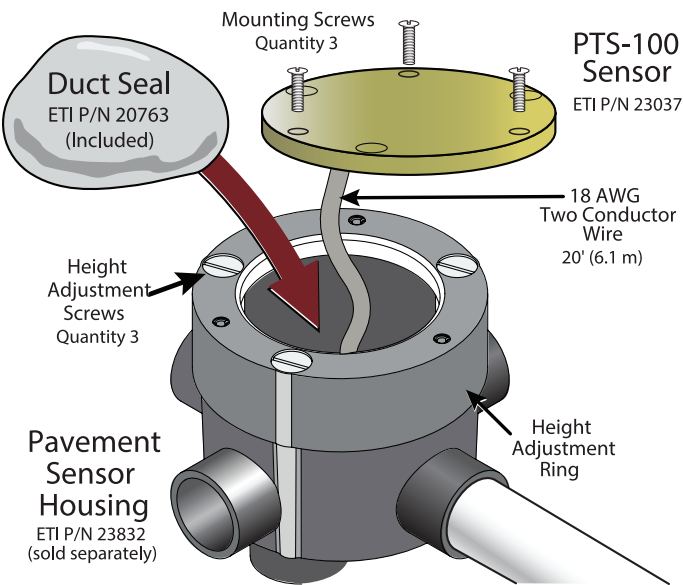

FIGURE 1. Installing PTS-100
2. Figure 1 illustrates the related components of the PTS-100 and the Pavement Sensor Housing.